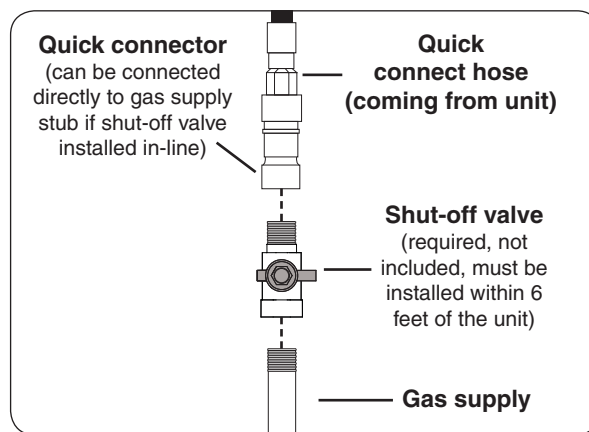

Fig. 16-2 Connecting to a gas line
- A shut-off valve is required within 6 feet of the unit. Connect the quick connect hose to the shut-off valve OR gas supply using a pipe joint compound resistant to all gasses (see Fig. 16-2). Tighten securely.